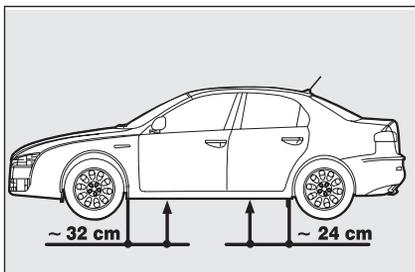
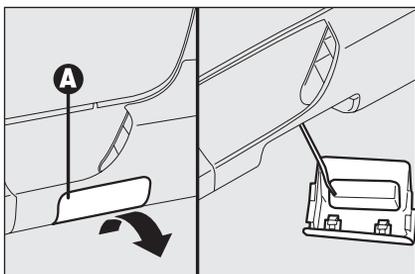

fig. 7
fig. 8
- The jack shall be fitted as shown in **fig. 7** (for versions fitted with sideskirts, before fitting the jack, remove cover **A-fig. 8** set on the sideskirt as shown in the figure);